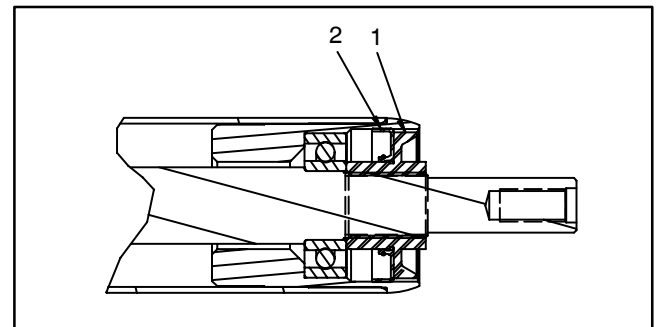

Figure 37
7. Install a nut with seal onto each end of the roller shaft. Tighten nuts until they bottom against bearings (Fig. 37). Remove nuts from roller shaft.